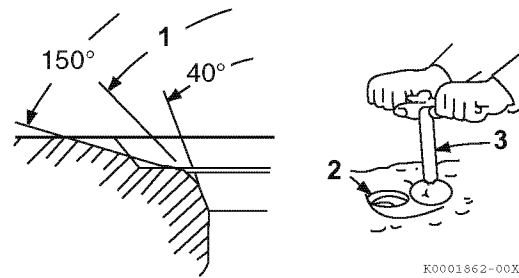

Figure 6-21
Light cutting can be performed using a hand-operated cutter (**Figure 6-21, (3)**).
Valve seat diameter can be adjusted by top-grinding with a 150° stone to make the seat diameter smaller, and bottom-grinding using a 40° stone to make the seat diameter larger. Once the seat location has been corrected, grind and lap the seat angle (**Figure 6-21, (1)**) to specification. See *Cylinder Head on page 6-3 for the service limit*.